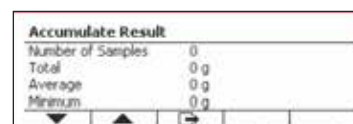

Figure 33
- When the message "Clear the statistical data?" appears, press the softkey corresponding to the icon. (See Figure 33)